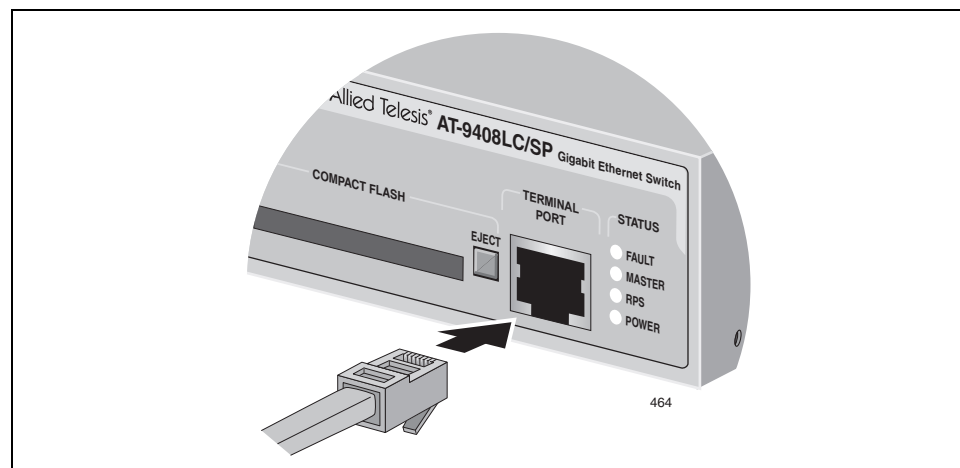

Figure 29. Connecting the Management Cable to the RJ-45 Terminal Port on the Switch
1. Connect the RJ-45 end of the management cable included with the AT-9400 Switch to the Terminal Port on the front panel of the switch, as shown in Figure 29.